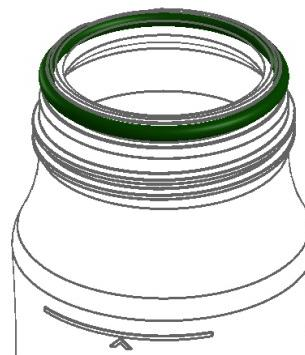

Figure 3.
- If the O-ring is not correctly attached and the cap is not closed properly, gas insufflation and water feeding may not be possible (see Figure 3).